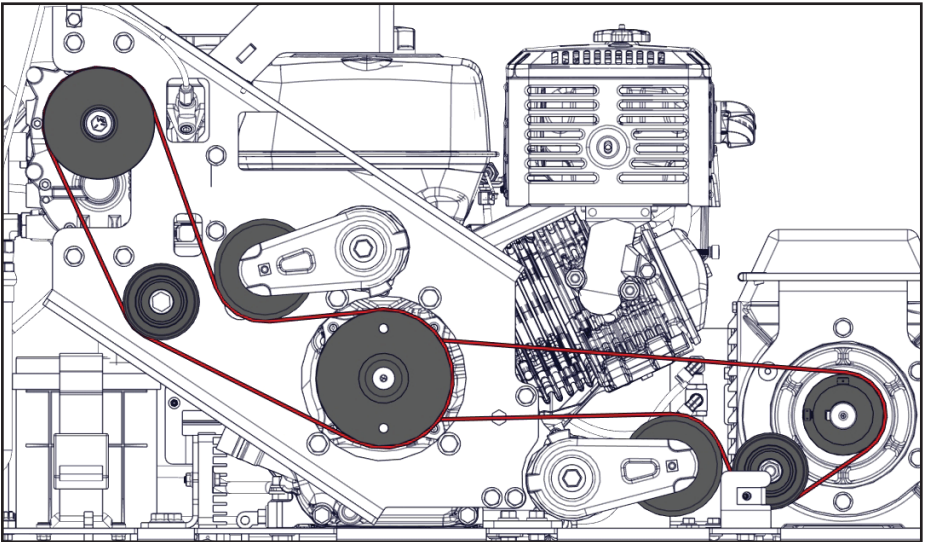

Figure 85 — Belt routing
- Compressor and generator belt routing (Figure 85).